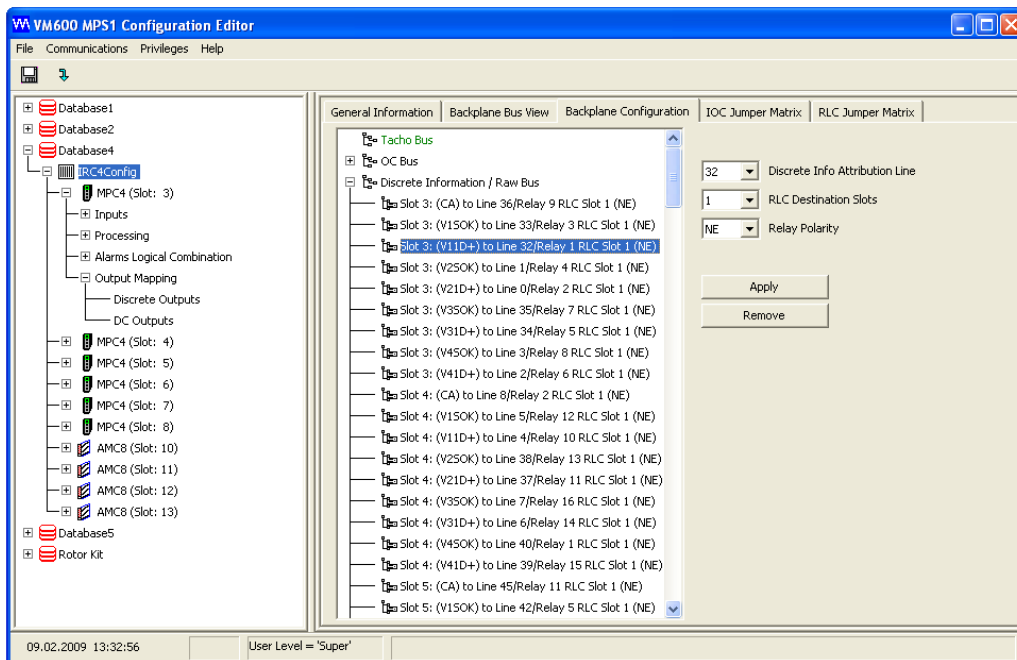

Figure 6-4 : Typical configuration on the Backplane Configuration screen
- 1- Select the rack in the main configuration tree, as shown in Figure 6-4.